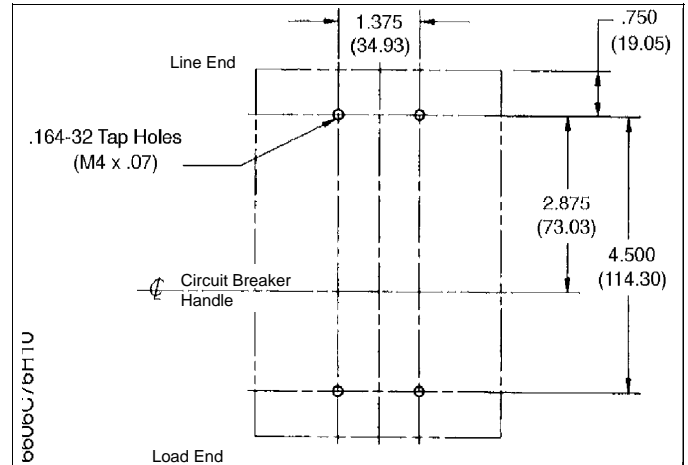
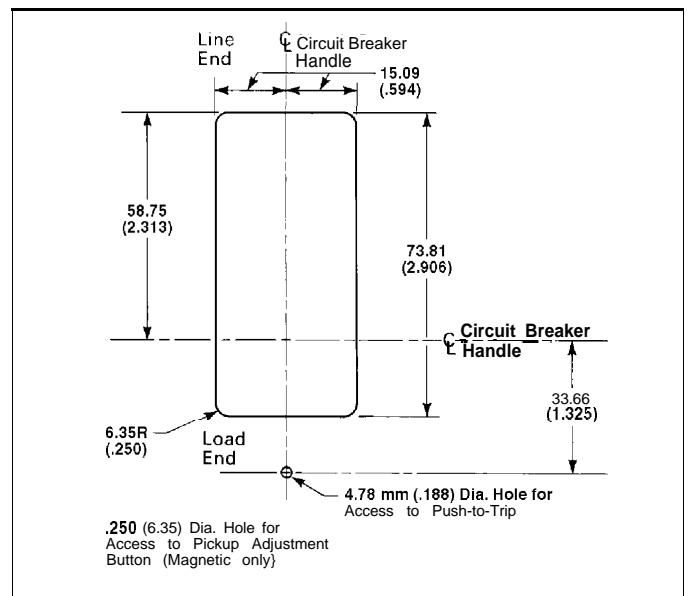

Fig. 2-1 Circuit Breaker Mounting Bolt Drilling Plan
Fig. 2-2. Circuit Breaker Escutcheon Dimensions
- a. For individual mounting panels, make sure that mounting panel is predrilled using bolt drilling plan (Fig. 2-1). For panelboard mounting, only load end support mounting holes are required. For deadfront cover applications, make sure mounting panel cover is cut out to correct escutcheon dimensions (Fig. 2-2).